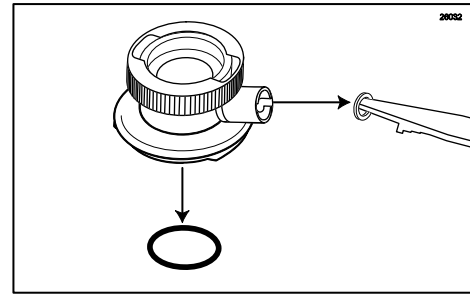

Figure 90
2. Remove the worn o-rings from the Injector Head. A small tool may be needed to remove the o-ring in the syrup line opening. (See Figure 90.)